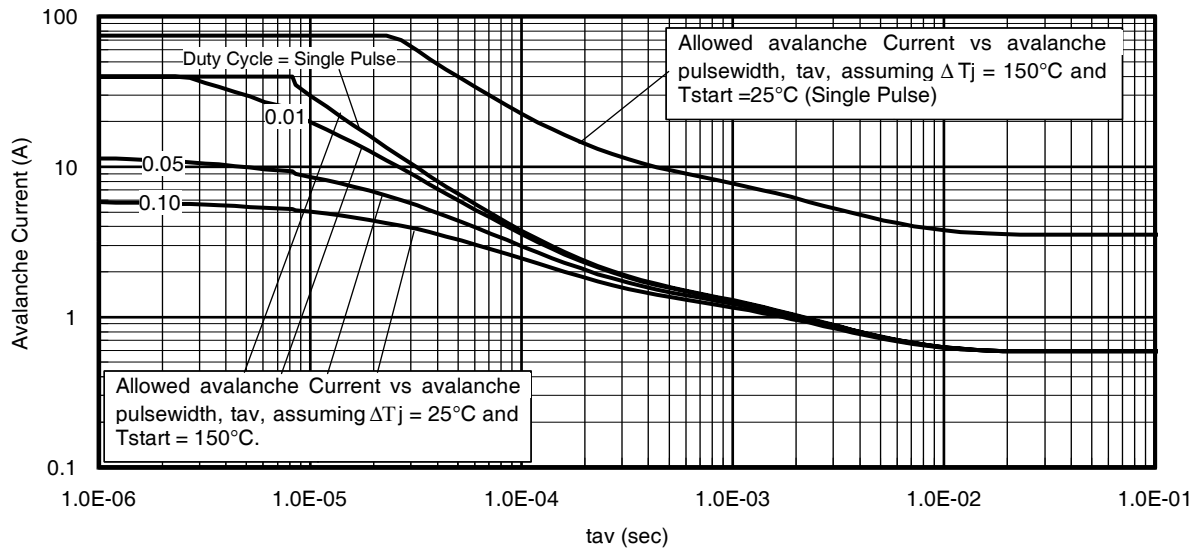

Fig 14. Typical Avalanche Current vs. Pulsewidth
| I_{AR} | Avalanche Current ① | See Fig. 14, 15, 22a, 22b, | A |
Notes on Repetitive Avalanche Curves , Figures 14, 15:
- ΔT = Allowable rise in junction temperature, not to exceed T_{jmax} (assumed as 25°C in Figure 14, 15).